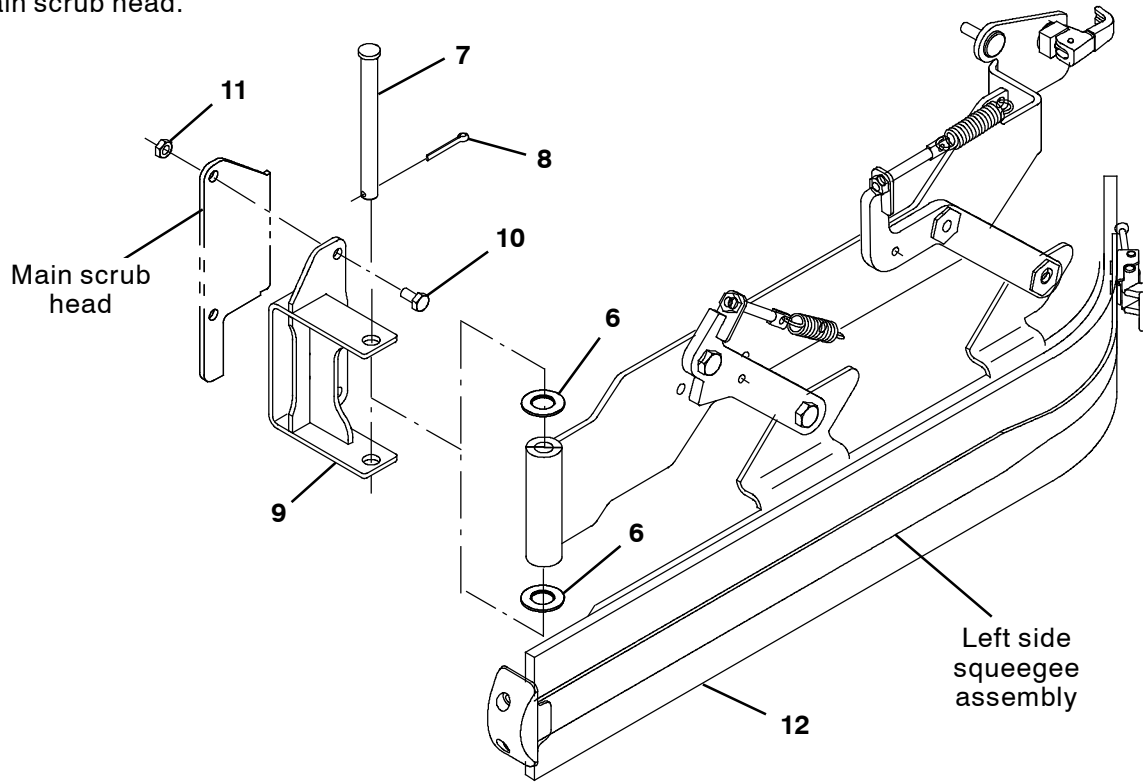

FIG. 5
18. Install a squeegee blade (12) onto each side squeegee assembly. Refer to the *MAINTENANCE* section of Operator Manual for instructions how to install the squeegee blades onto the side squeegee assemblies.
19. Use two M8 hex screws (10) and two M8 hex nuts (11) to install each squeegee pivot bracket (9) onto the main scrub head. (Fig. 5)
20. Use one clevis pin (7), one cotter pin (8), and two thrust washers (6) to install each squeegee assembly onto the main scrub head. (Fig. 5)